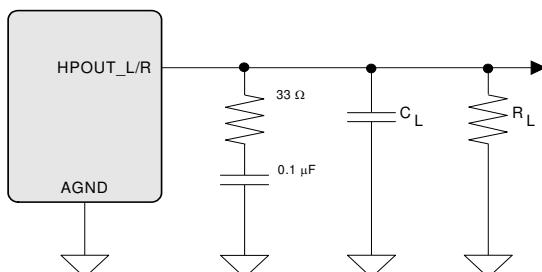
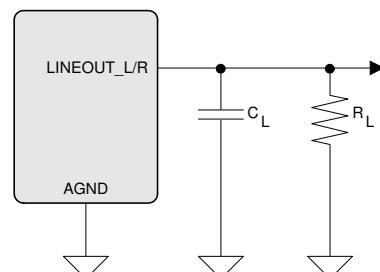

Figure 5. Output Test Load, Headphone Out
Figure 6. Output Test Load, Line Out
(Test conditions (unless otherwise specified): Input test signal is a full-scale 997 Hz sine wave; VD = 1.8 V; VL_HD = VL_IF = 3.3V; TA = -40 to +85°C; Measurement bandwidth is 10 Hz to 20 kHz; test load RL = 10 kΩ, CL = 10 pF for the line output and test load RL = 16 Ω, CL = 10 pF for the headphone output (see Figure 5); DAC Gain = 0 dB).
8. See Figure 5 and Figure 6. R_L and C_L reflect the recommended minimum resistance and maximum capacitance required for the internal op-amp's stability and signal integrity.